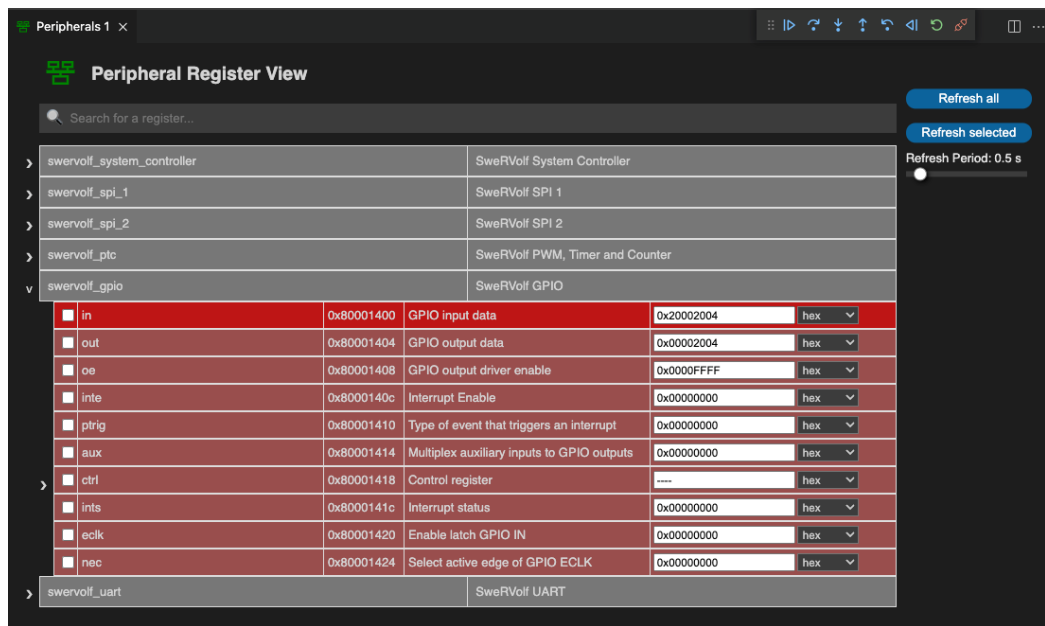

Figure 47: Catapult Studio Peripheral Registers View
- c. In the Peripheral Registers View, open the GPIO section. GPIO stands for “General Purpose Input / Output”. This is the section of memory where the switch inputs are mapped (Figure 47).